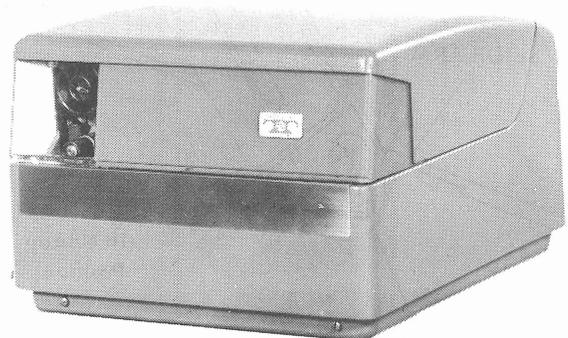

Figure 1 - Receive-Only Typing Reperforator (ROTR) Cover
1.01 This section provides the description and operation, adjustments, and lubrication for the Model 37 Receive-Only Typing Reperforator (ROTR) Cover (Figure 1).